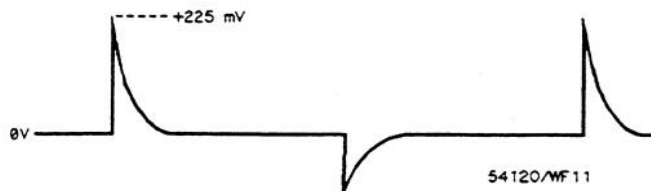

Figure 7-3. HP 54118A Trigger Output Pulses
2. Set monitor oscilloscope to 50 Ω . Connect HP 54118A OUTPUT to monitor oscilloscope. Set up monitor oscilloscope to observe pulses. Pulses should be approximately +225 mV and approximately 5 ns wide. Refer to figure 7-3.